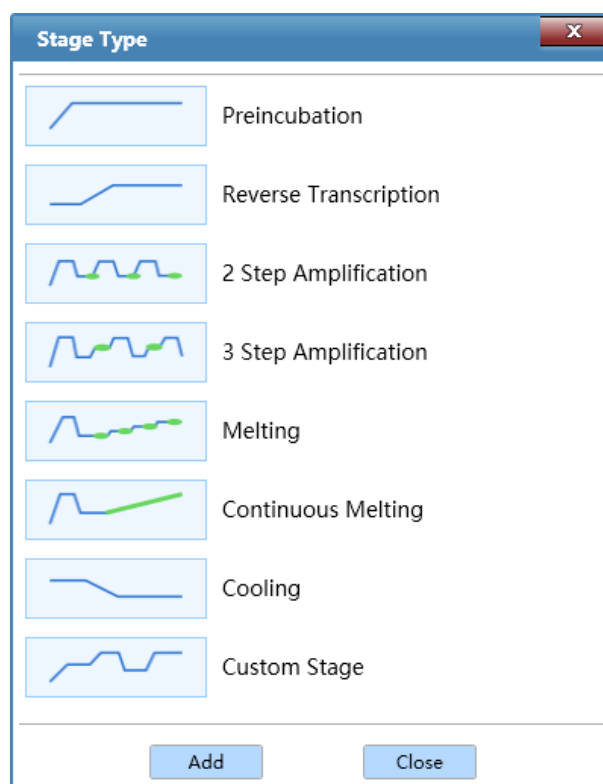

Figure D-5.4. Stage Type Window
- ▶ If user add a new stage, the application software will automatically pop up a stage type window, as shown in figure D-5.4.